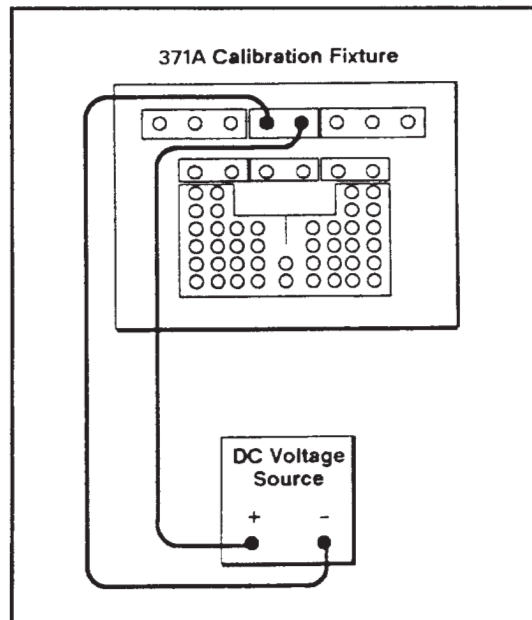

Figure 4-8. Calibration Fixture connections for procedure D2.
3. Connect the DC voltage source to the COMMON and the COMMON SENSE terminals as shown in Figure 4-8, and close the protective cover.